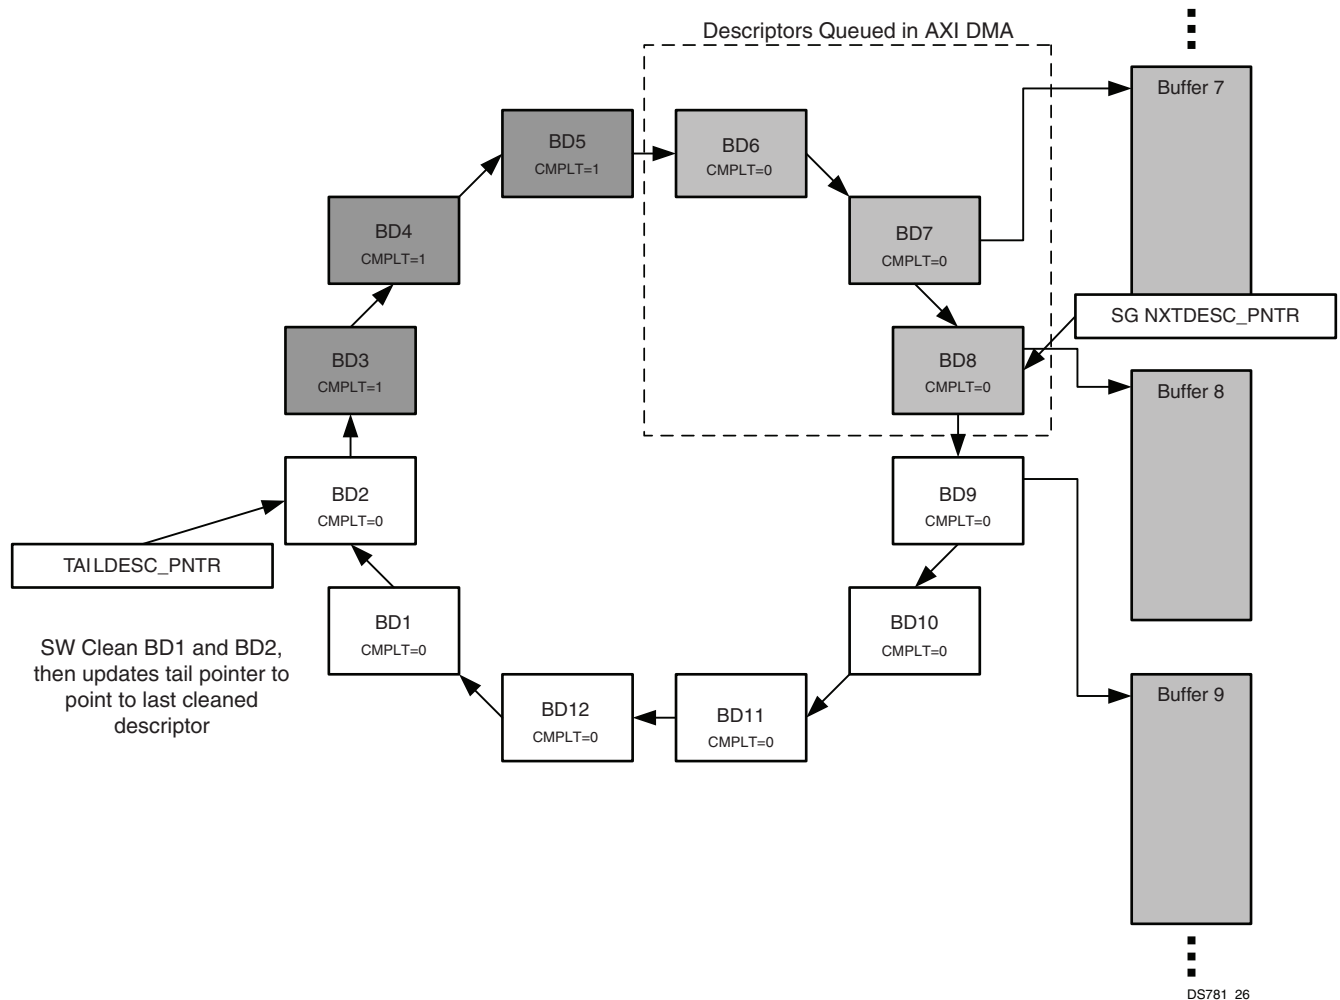

Figure 4-15: Descriptors Re-Allocated
4. Descriptors re-allocated (DMACR.RS=1), as shown in Figure 4-15.